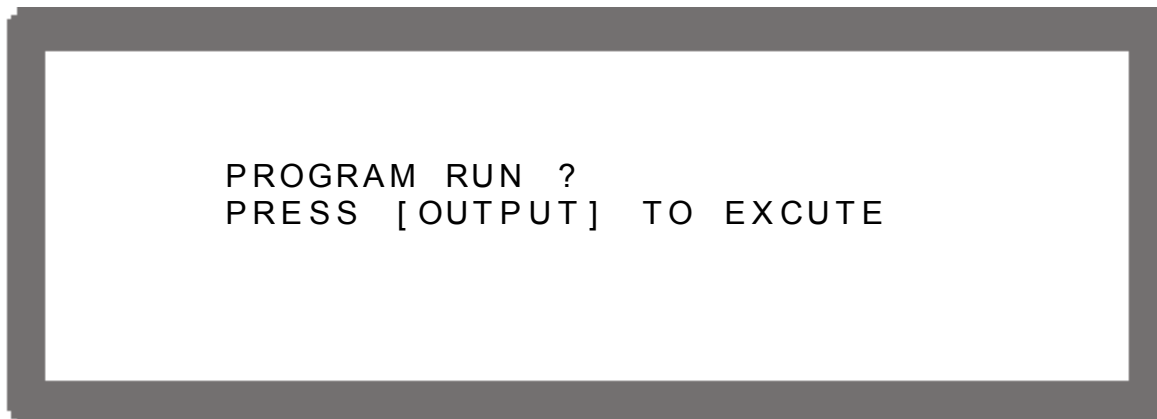

Figure 4-15
1. Press “” will prompt a confirmation page as Figure 4-15 shows.
① NOTICE
1. Press “” in Program page (Figure 4-3) or Sequence page (Figure 4-8) will prompt a confirmation page as Figure 4-15 shows.
1. Press “” will appear a confirmation window as Figure 4-15 shows.